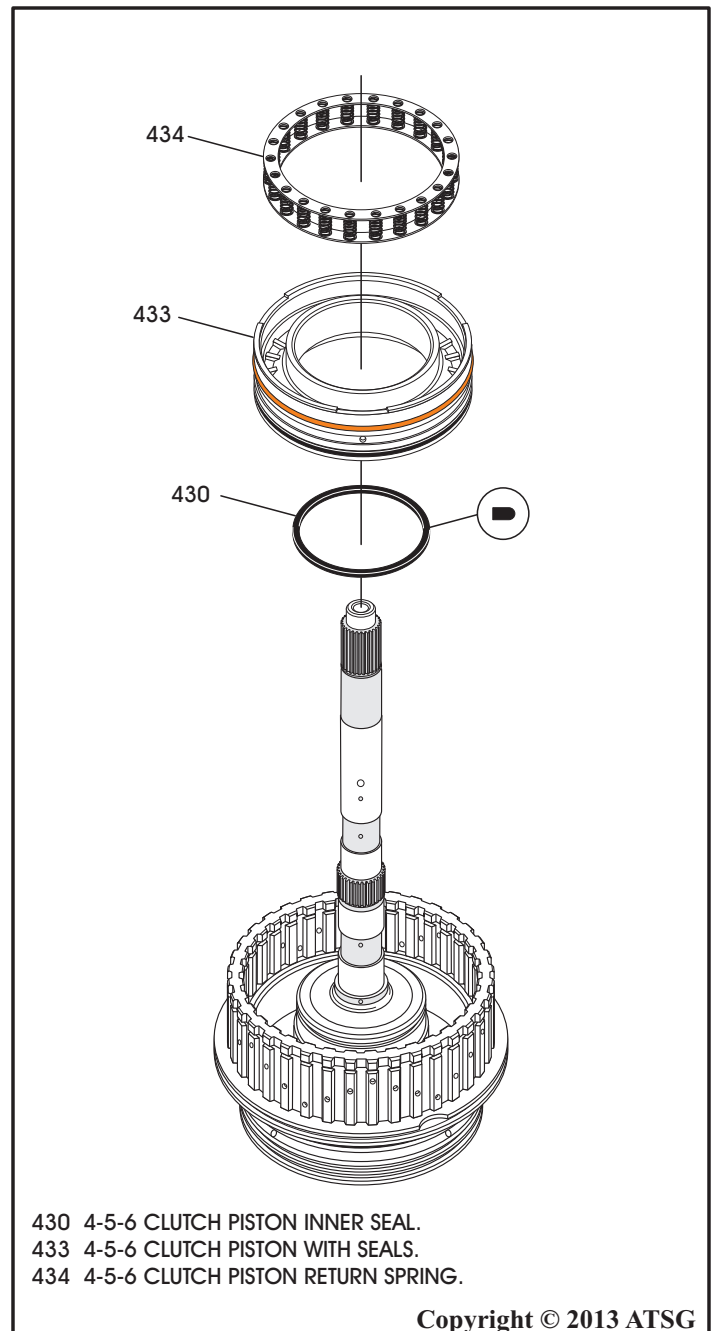

Figure 150
31. Install new 4-5-6 clutch piston inner seal into the clutch housing, as shown in Figure 150, and lube with small amount of Trans-Jel®.
32. Lube the 4-5-6 clutch piston outer seals and the inside diameter of piston with a small amount of Trans-Jel® (See Figure 150).
33. Install 4-5-6 clutch piston assembly into housing, as shown in Figure 150, until fully seated.
34. Install the 4-5-6 clutch piston return spring on top of the piston, as shown in Figure 150.